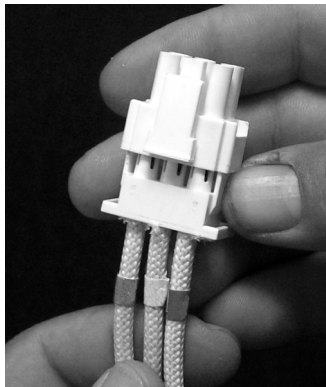

Figure 37
4. In the rear of the fryer disconnect the 6-pin connector for the left element (as viewed from the front of the fryer) or the 9-pin connector for the right element attached to the contactor box. Press in on the tabs on each side of the connector while pulling outward on the free end to extend the connector and release the element leads (see Figure 37). Pull the leads out of the connector and out of the wire sleeving.